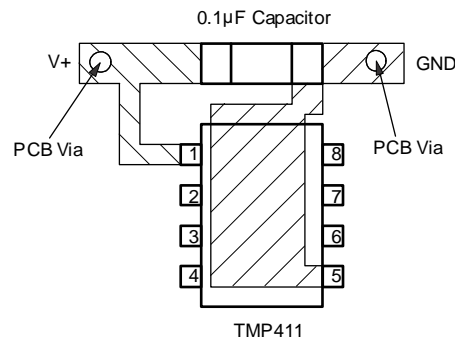

Figure 22. Suggested Bypass Capacitor Placement
- Use a 0.1- μ F local bypass capacitor directly between the V+ and GND pins of the TMP411, as shown in Figure 22. Minimize filter capacitance between D+ and D– to 1000 pF or less for optimum measurement performance. This capacitance includes any cable capacitance between the remote temperature sensor and the TMP411 .